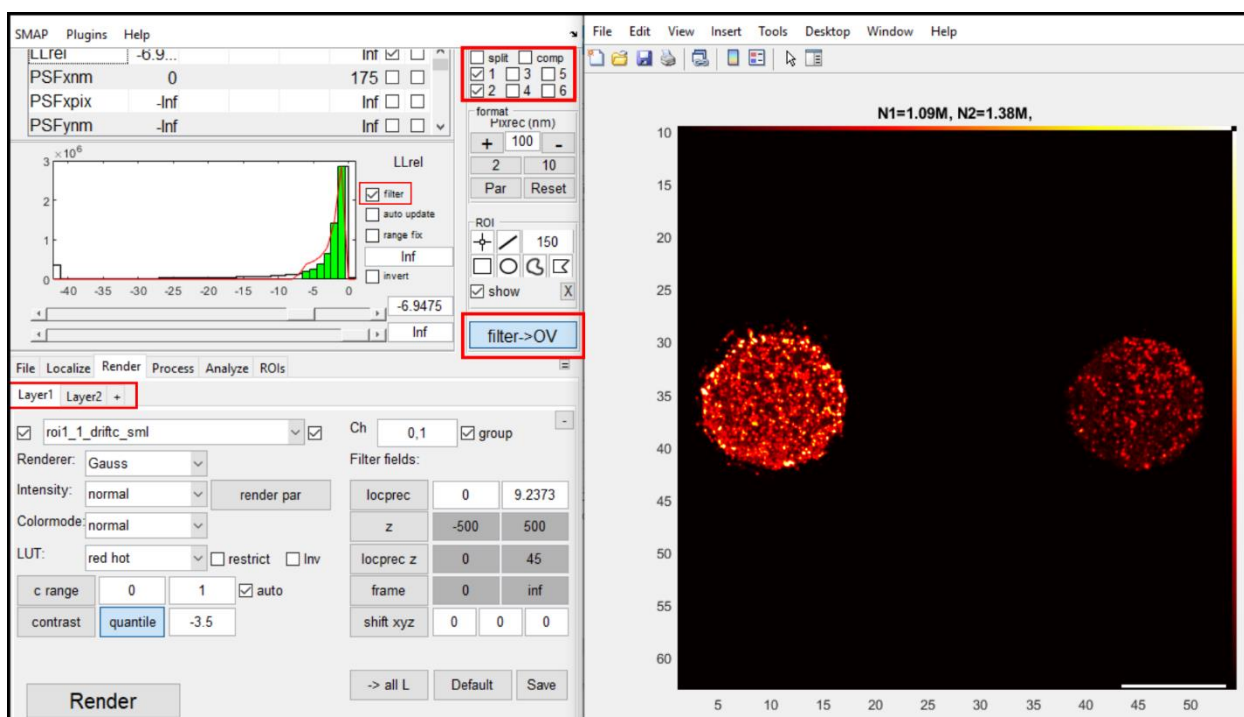

Figure 4: Shows the GUI to render the fitted dataset.
1. Check in the SMAP GUI at the bottom of the [Render]. In order to remove incorrect localizations, rendering is done based on specific parameters according to Figure 4.
4. Ensure Layer1 is selected for display and also in the layer selection panel. Render based on the parameters similar to Figure 4.